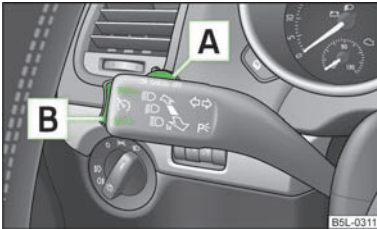

Fig. 104
- Turn the switch » Fig. 104 into the **ON** position.
- Press the rocker button » Fig. 104 into the **RES** position.
The cruise control system is **temporarily switched off** by pressing the switch » Fig. 104 into the spring-tensioned position **CANCEL** or by depressing the brake or clutch pedal.
- Turn the switch » Fig. 104 into the **OFF** position.